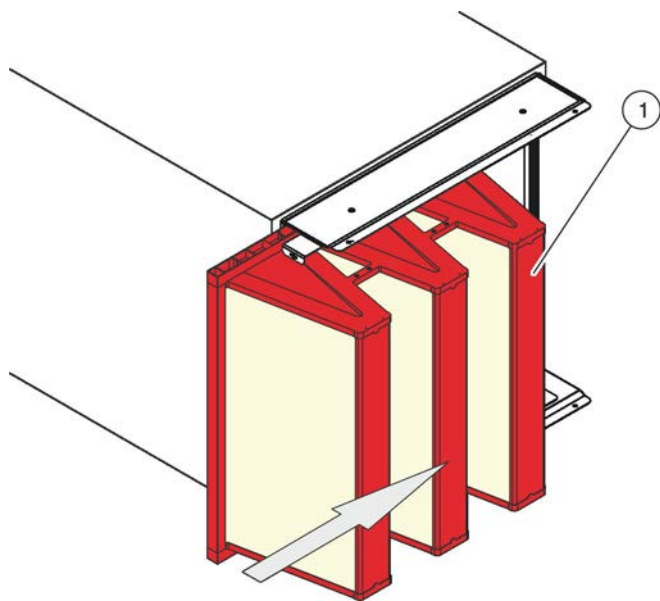

Fig. 61: Replacing the filter element
6. ▶ Slide the new filter element (Fig. 61/1) in from the side.